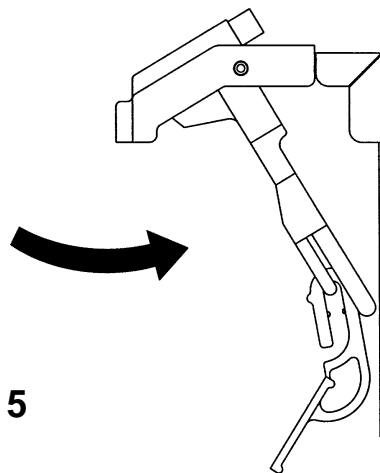

Fig. 5
- b) Allow the unit to cycle into the freeze mode. This occurs when the pump motor starts to supply water upwards, through the supply tube. After 1-2 minutes in freeze, move the bin switch paddle fully to the right. See Fig. 5.